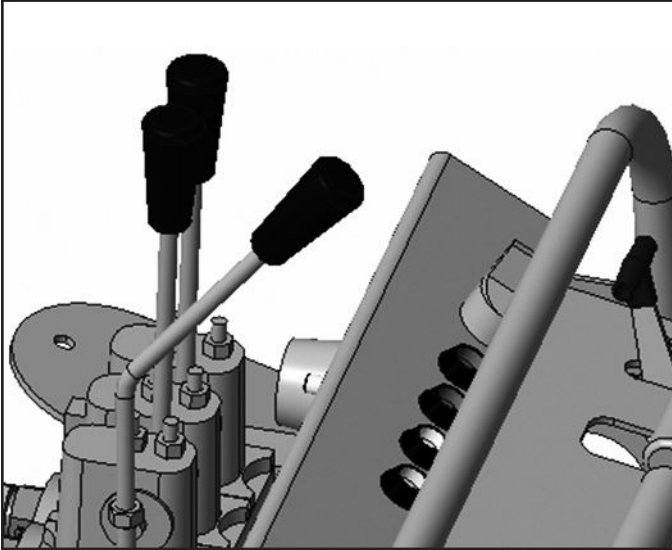

Figure 3: Bent Handle Raises Mid-mount System
7. With the ABI Force started, use the bent hydraulic control lever to raise the mid-mount attachment system clear of the shipping crate. The bent hydraulic control lever will be the lever furthest to the left in the hydraulic lever set. Refer to **Figure 3** for reference.